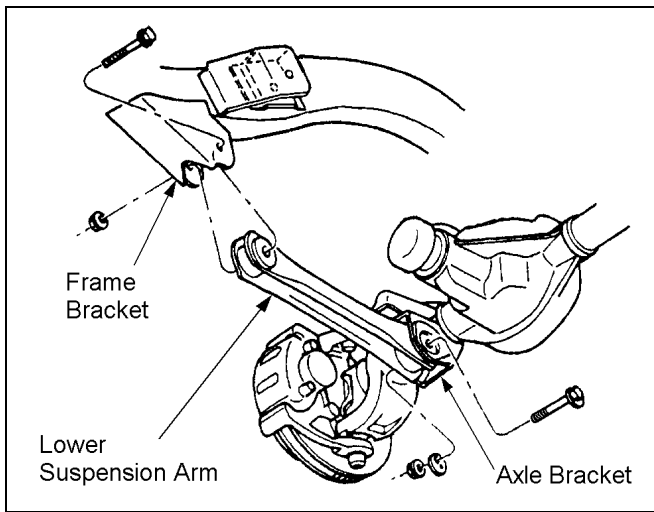

Figure 5
4) ☒ Remove the nut, cam, and cam bolt from the axle bracket. Remove the nut and bolt from the frame bracket. Remove the lower suspension arm. See Figure 5.